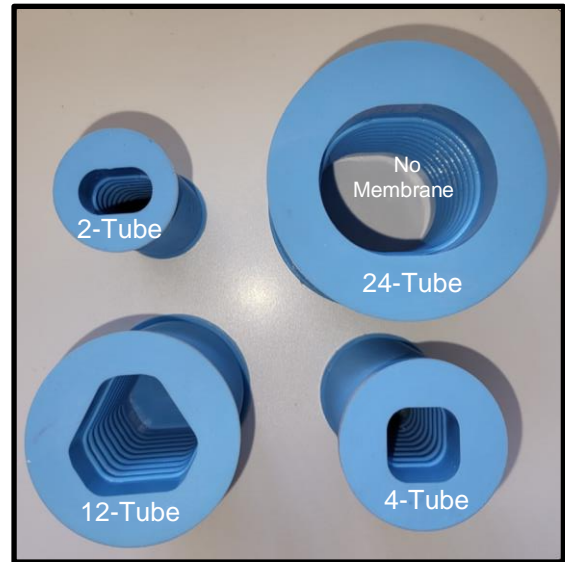

Figure 18
11.2.1 One End of the End Plate Adapter is open and goes inside the Splice Case End Plate. See Fig. 18.